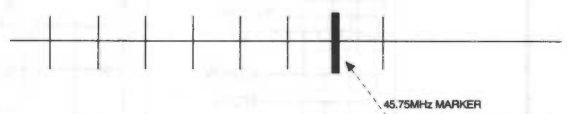

Figure 3
- 1) Adjust VCO coil (L201) so that the waveform on the alignment scope may coincide with 45.75MHz as shown in figure 3.
Readjust it after attenuating the output to 10-20dB, if the waveform is not same with figure 3.